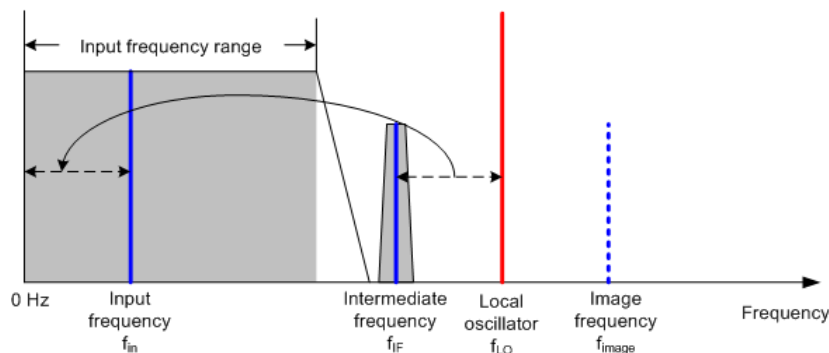

Figure 13-3: Mixing process
The mixer converts the RF signal to a fixed intermediate frequency (IF). This process usually involves several stages. It lasts until you get an IF for which good narrowband filters are available. The R&S FSH needs three mixing stages to get an IF that the filter can handle. Figure 13-3 graphically shows the mixing process.